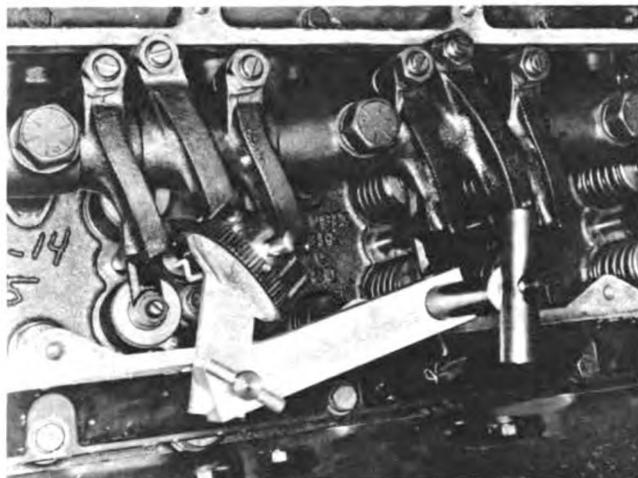

Fig. 2-38, (V514114). Dial indicator in place — V-903
1. Set up the ST-1270 Indicator Support with the indicator extension atop the injector plunger flange at No. 2 cylinder, Fig. 2-38.